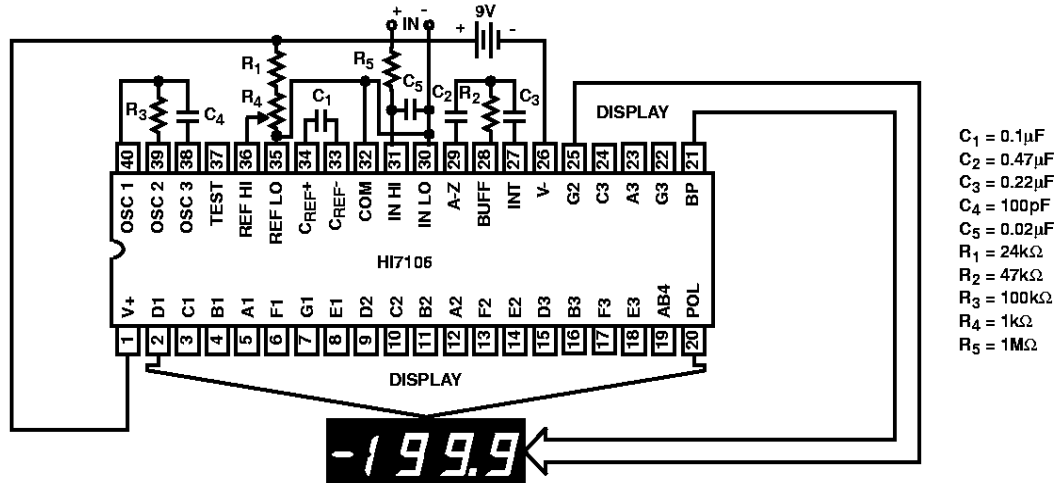

FIGURE 1. HI7106 TEST CIRCUIT AND TYPICAL APPLICATION WITH LCD DISPLAY COMPONENTS SELECTED FOR 200mV FULL SCALE
4. Unless otherwise noted, specifications apply to both the HI7106 and ICL7107 at  $T_A = 25^\circ\text{C}$ ,  $f_{\text{CLOCK}} = 48\text{kHz}$ . HI7106 is tested in the circuit of Figure 1.